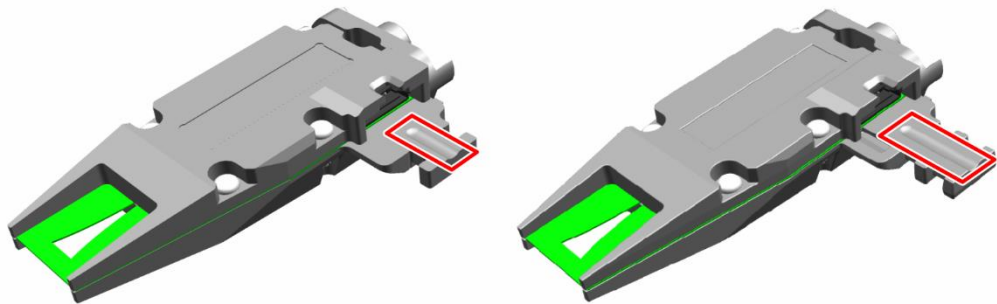

Figure 2-4: Placing the new cable
4. Place the new cable in the notch. See Figure 2-4: Placing the new cable.